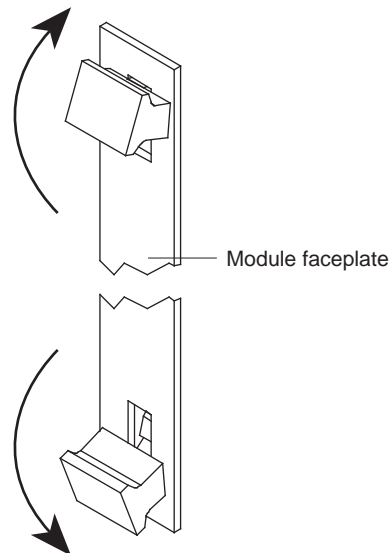

Figure 3 Handles in Outward (Eject) Position(
- 4 Grasp the inject/eject handles of the module and push them outward as shown in Figure 3.
NOTE: The panel shown in Figure 3 is a single-slot panel. Some modules occupy two slots.
- 3 Be sure that the inject handles are in the outward position. See Figure 3.